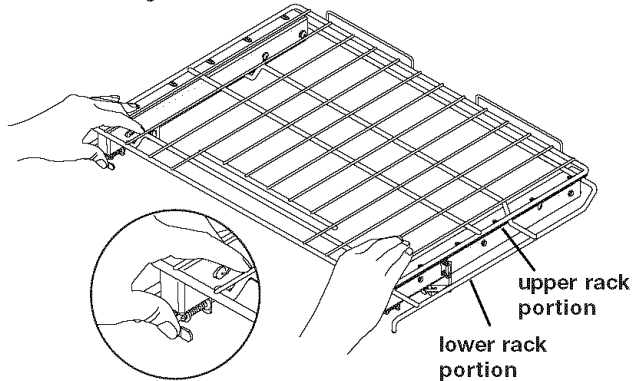

Fig. 1
- **To remove** use thumbs to press in on both left and right spring-loaded release levers -Fig. 1-. Place the remainder of both hands over the upper front of the glide rack. While pressing in on both levers, pull the rack straight out **slightly** and release thumb levers. Using both hands grasp **both the upper and lower portions** of the glide rack (-Fig. 1); pull rack using both hands straight out until reaching the stop position -Fig 2-. At the stop, lift up front of rack slightly and continue to pull rack away from oven -Fig 3-. Be sure to hold on both upper and lower rack portions when removing from or handling rack outside of the the oven - these rack portions move independently and are difficult to handle unless held together.